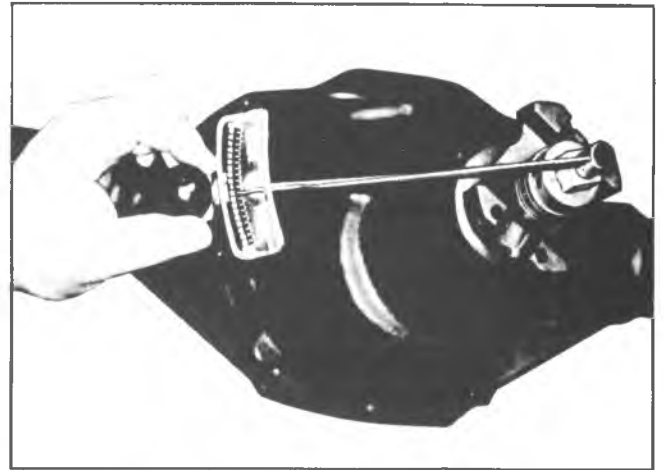

Fig. 24B--Measuring Rotating Torque
7. While observing the preceding caution, carefully set preload drag at 20-25 inch pounds on new bearings, or 10-15 inch pounds on reused bearings. Use an inch-pound torque wrench such as J-5853 as shown in figure 24B, to , measure the rotating torque.